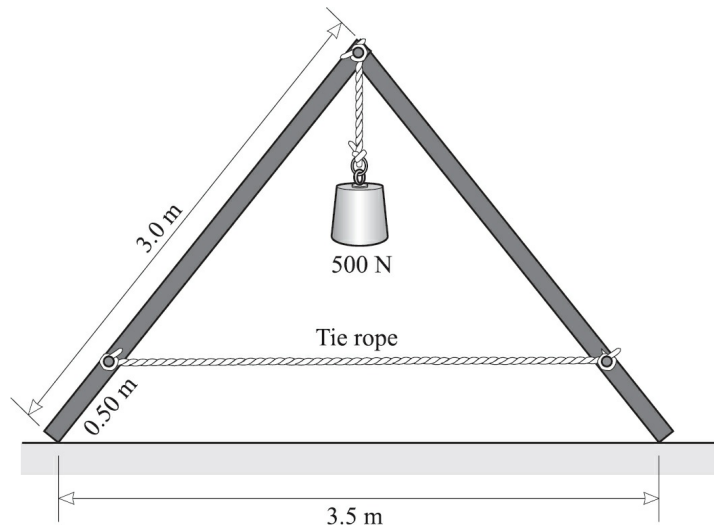

Fig. 5-21
5.31 [III] A truss is made by hinging two uniform, 150-N rafters as depicted in Fig. 5-21. They rest on an essentially frictionless floor and are held together by a horizontal tie rope. A 500-N load is held at their apex. Find the tension in the tie rope.